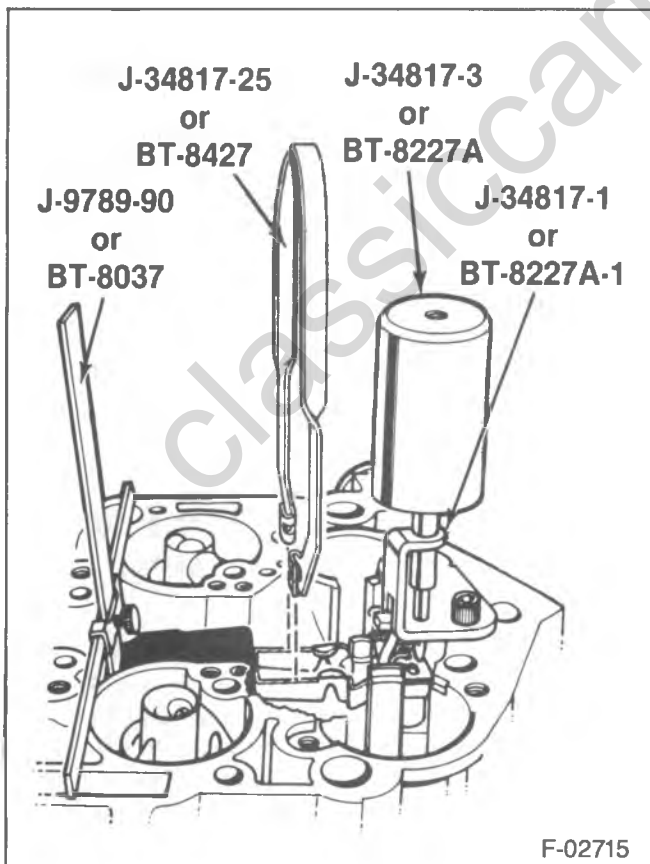

Figure 40—Float Adjustment
1. Remove the air horn, gasket, power piston and metering rod assembly, and the float bowl insert (figure 40).